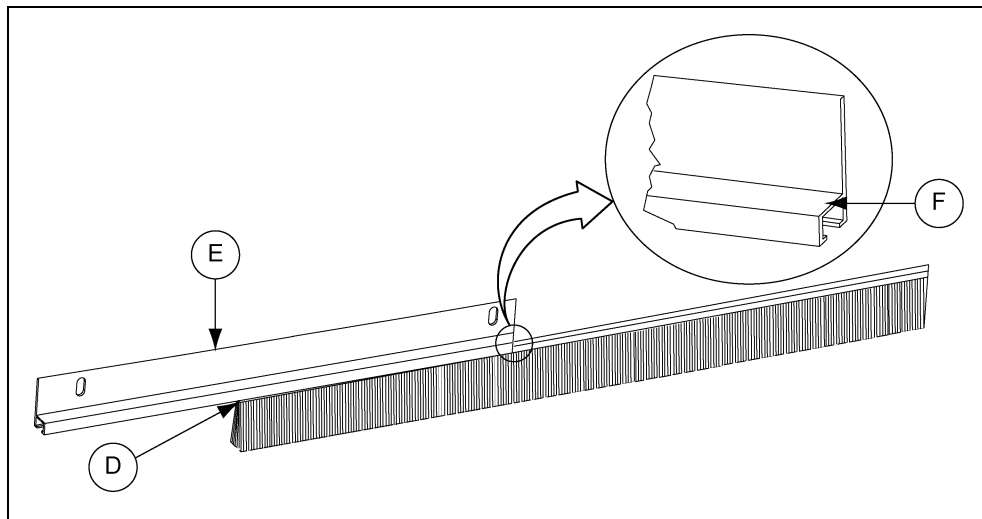

Figure 7I
- Install one end of the brush (D) to the end of the brush holder (E) and guide the brush along the slotted groove (F). (See Figure 7I.)